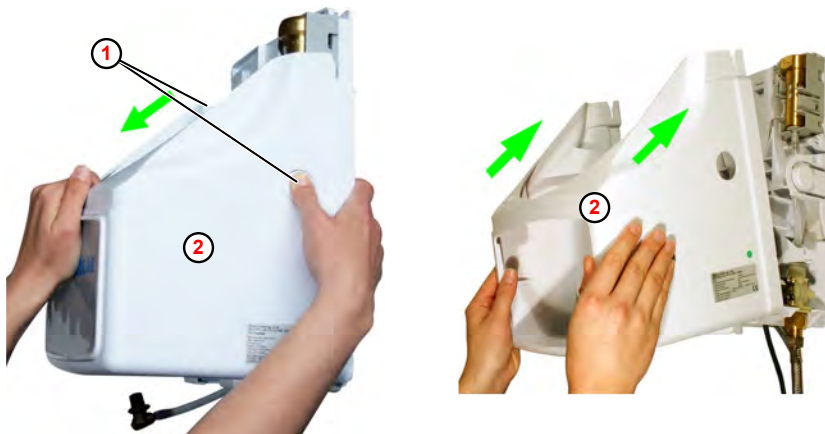

Fig. 18: Removing/installing the hood (example with EcoPlus S)
1. ➤ Press both buttons (Fig. 18 , ①) on the housing (right and left).
2. ➤ Remove the housing ② forwards.